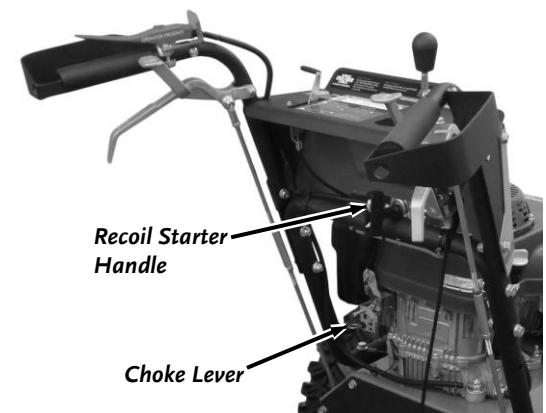

Figure 17
1. Pull out the Choke Lever  located on the back of the Engine (leave Choke pushed in if the Engine is already warm) (**Figure 17**).
4. When the Engine starts, push the Choke Lever all the way in. (**Figure 17**).